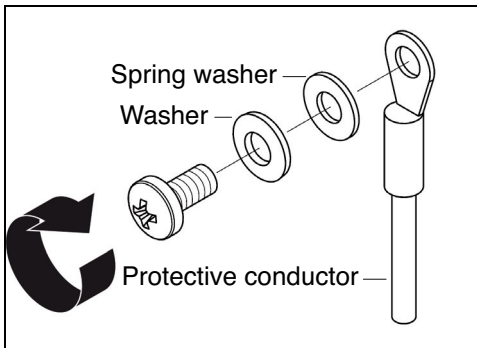

Fig. 41
- ▶ Connect the protective conductor to the PE connection (M4, tightening torque 17.8 lbf-in (2 Nm)), see Fig. 41. The shield can be applied to the PE connection when a shielded line is mandatory according to the control manufacturer.
- ▶ Screw the cable gland tight, see Fig. 41.